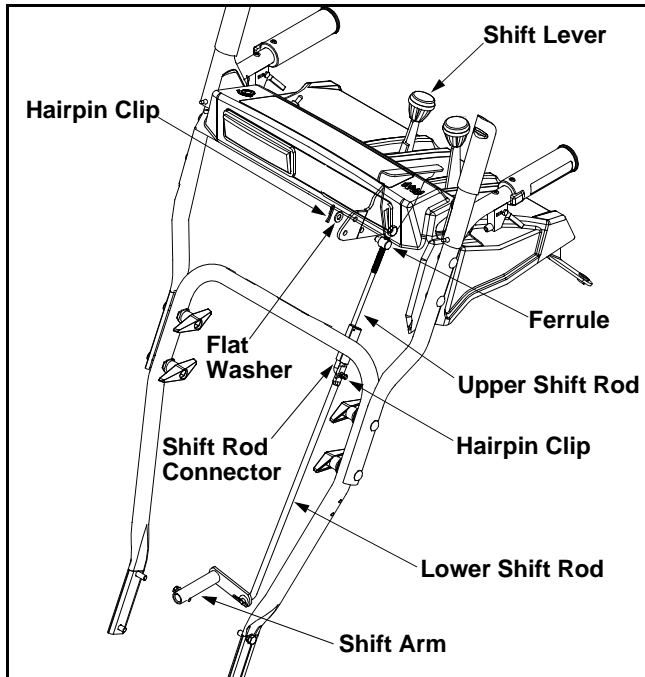

Figure 13
- Remove the hairpin clip and slide the shift rod connector up, to separate the upper shift rod from the lower shift rod. See Figure 13.
- Place the shift lever into the sixth (6) position.